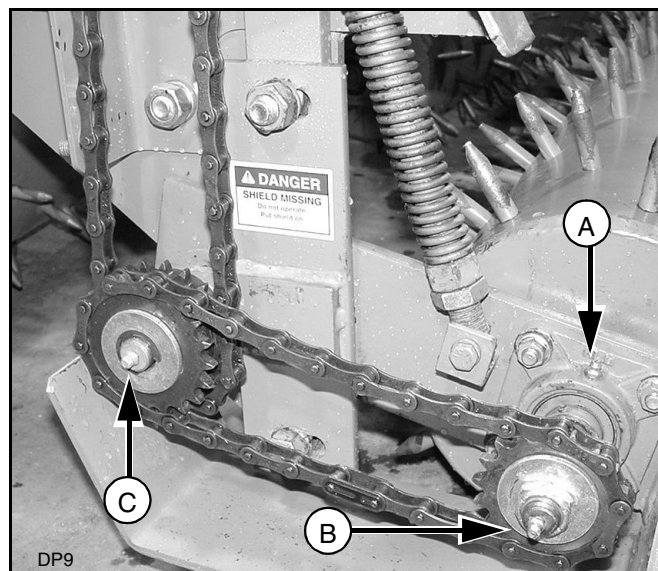

Figure 10. Lubrication Points
1. Lubricate all six bearing housings every 8 hours. Bearing housings are located on each end of rollers as indicated by grease fitting (A). See Figure 10.
2. Lubricate grease fittings (B) & (C) every 8 hours.